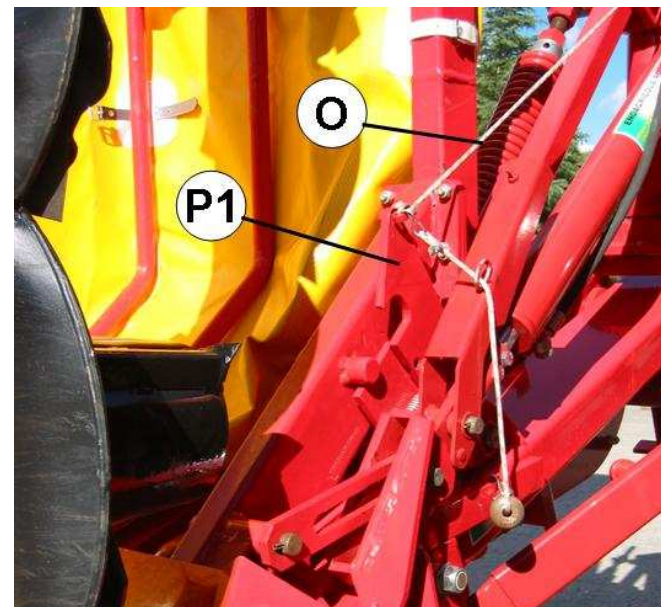

Fig. 30
1) give pressure to the hydraulic hitch to lighten the weight on safety hook **P1** (Fig. 30).
2) Pull cord **O** to free the bar from safety hook **P1** (Fig. 30).